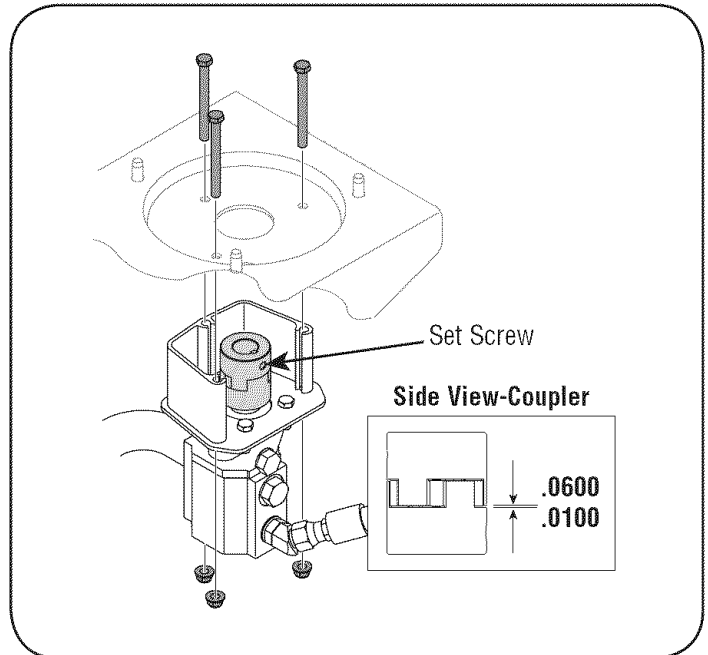

Figure 5-2
1. Remove three nuts that secure the pump to the coupling shield. Two nuts are at the bottom corners and one is in the top center. See Figure 5-2.
10. Set .010” to .060” clearance/gap between the nylon “spider” and the engine coupling half by sliding a feeler gauge or matchbook cover between the nylon “spider” and the engine coupling half and moving pump coupling half as needed. Secure pump coupling half with set screw. See Figure 5-2.